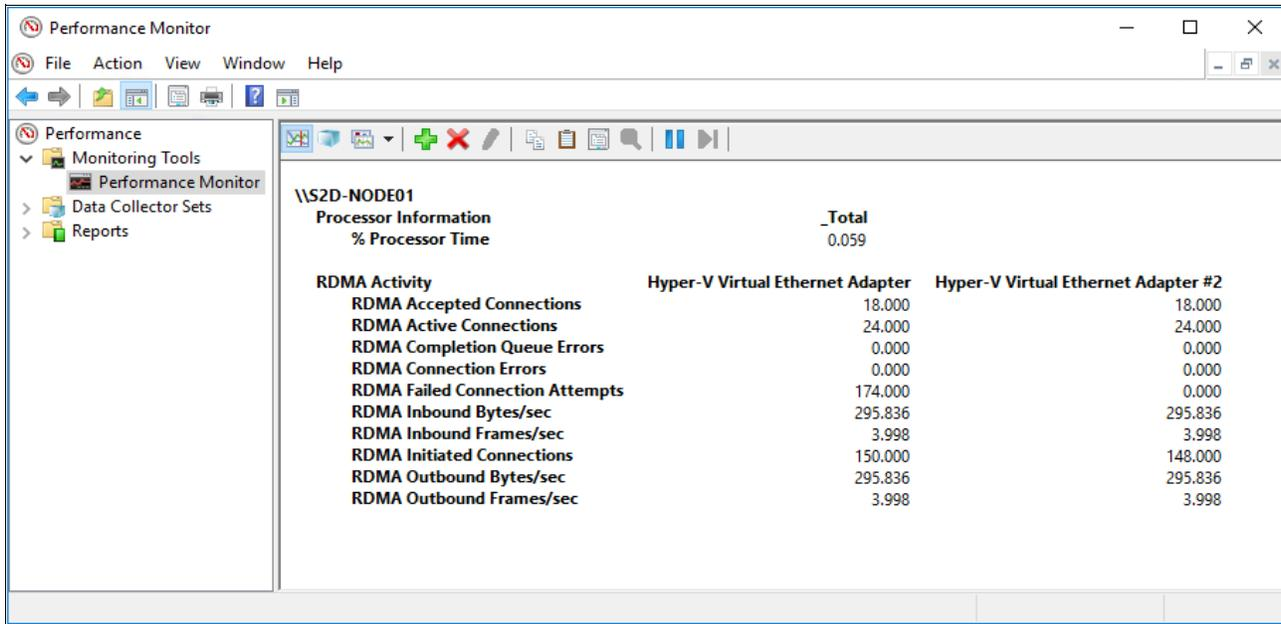

Figure 70 Key RDMA performance metrics
- This should show a report of RDMA activity for your vNICs. Here you can view key performance metrics for RDMA connections in your environment, as shown in Figure 70 on page 90.